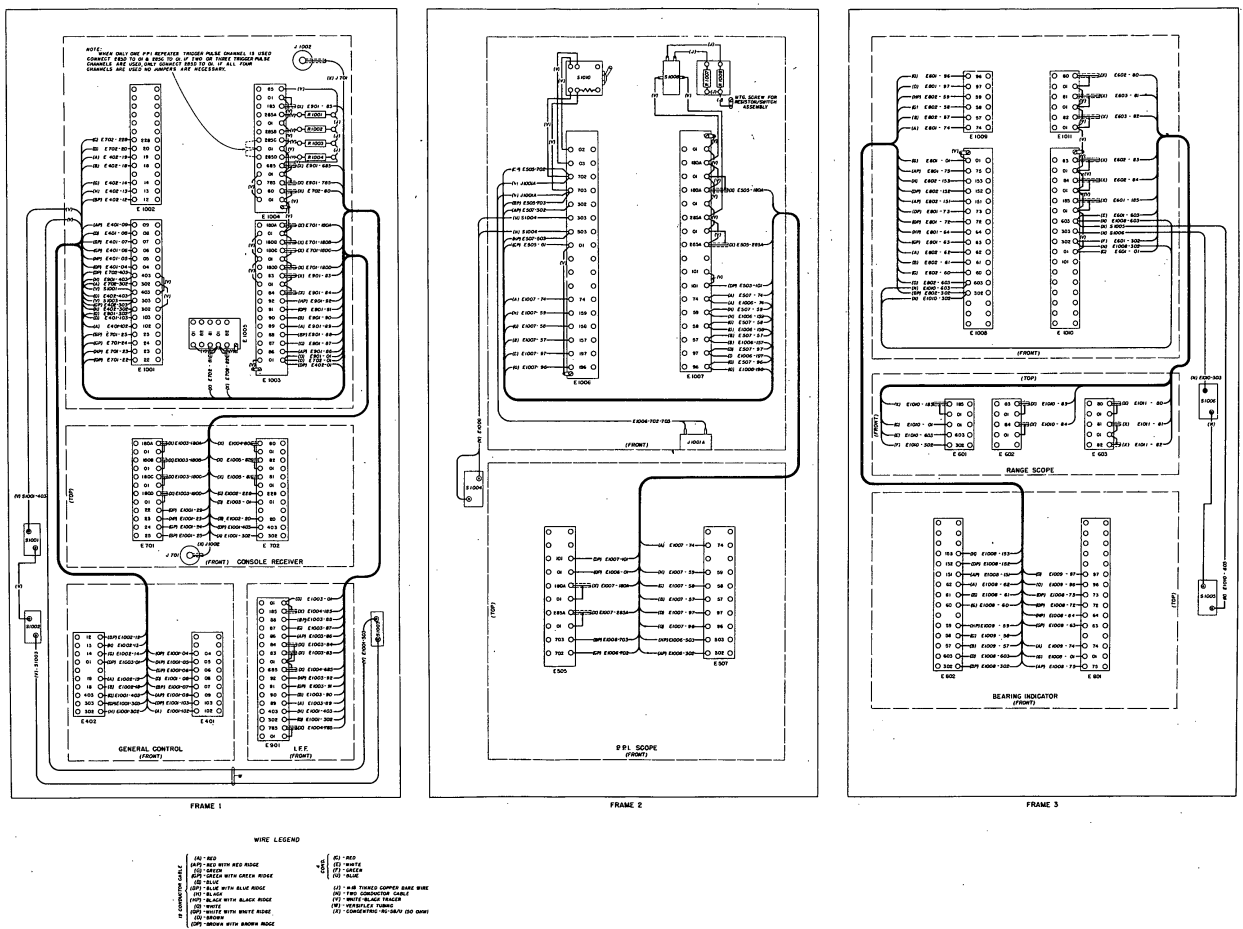

Figure 3-31. Indicator Console, Frame Wiring Diagram
(5) Four channels are provided for the video signals. Each of these is supplied by one of the cathode followers in the Console Receiver. These outputs appear on the 180 series of terminals in the left-hand Console Unit. Terminal 180A is the output of the first cathode follower and it is connected directly to the video input to the PPI Indicator in the Console Receiver. The equipment is designed to handle three remote PPI units on each of the four outputs, 180A, 180B, 180C and 180D. It must be remembered that one of these outputs is already in use by the PPI Indicator in the Console. When using this output only two additional units may be placed on this line. Convenient parallel terminations on the PPI scope are included to make these connections possible.
(6) In a similar manner, 285A is the terminal on the PPI frame from which the trigger pulse is obtained for the first chain of indicators. The PPI Indicator in the Console is connected to it. From there, two additional remote units may be coupled in parallel with the Console PPI. Three or less units in parallel may also be connected to each of the terminals 285B, 285C, and 285D.
(7) To summarize, a total of eleven remote indicators in addition to the Console PPI Indicator, may be connected to the SR system. The video signal for each of these indicators is obtained from the 180 series of terminals; the trigger signal is obtained from the 285 series of terminals. A total of three indicators may be connected in parallel to the "A" branch of trigger and video lines; three to the "B" branch, three to the "C" branch, and three to the "D" branch.
(8) In order to properly terminate the video and trigger lines, two procedures are necessary. These involve the BRIDGE-TERMINATE switches on the remote indicators, and the connections to terminal board E-1003 in the Indicator Console Case. First, make the connections required at terminal board E-1003 as shown in Fig. 3-31. Two additional indicators may be connected to the same branch of trigger and video circuits with the PPI Indicator in the Console. To properly terminate the lines under this condition, change the BRIDGE-TERMINATE switch on the Console PPI from the TERMINATE position to the BRIDGE position. If a second branch of trigger and video circuits is used; that is, if from four to six indicators in all are connected, connections will be